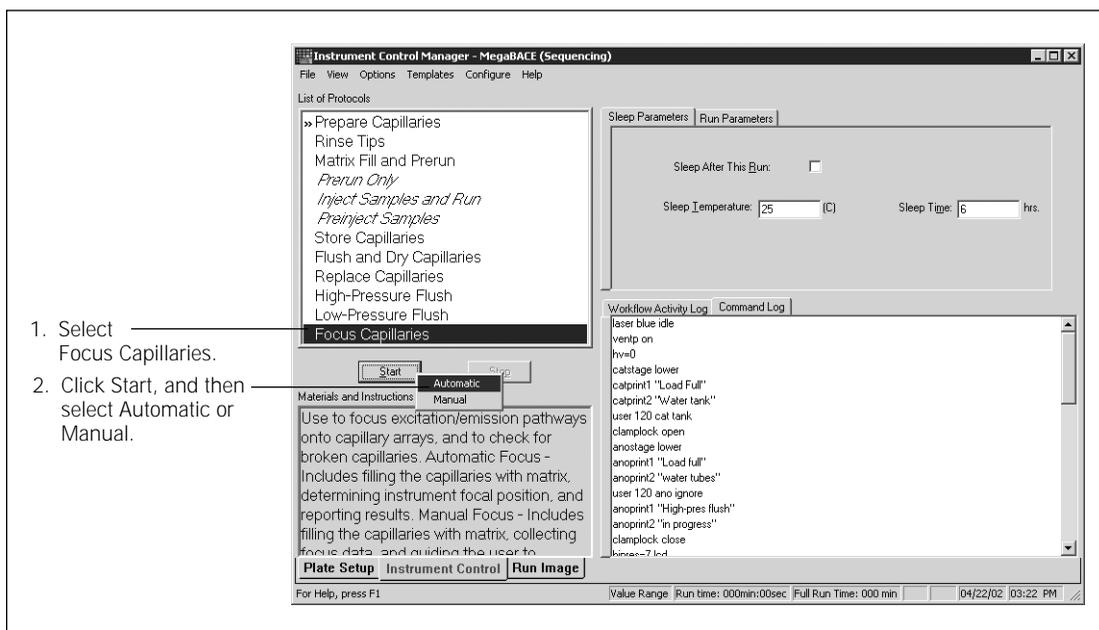

Figure 6. Starting the Focus Capillaries protocol in the Instrument Control window.
1. In the Instrument Control window (figure 6), make sure the **Focus Capillaries** protocol is selected in the List of Protocols, and then click **Start**.